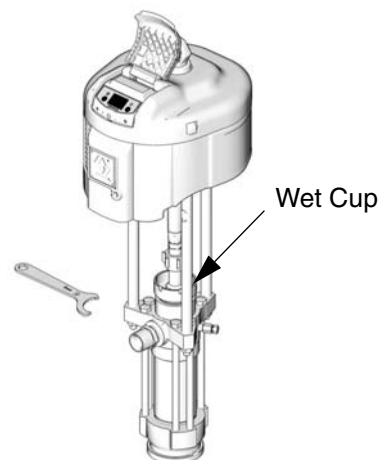

FIG. 8
8. Fill resin pump wet cup (DD) 1/3 full with Graco TSL™ fluid (throat seal lubricant), FIG. 8. Refer to the specific pump manual for details.